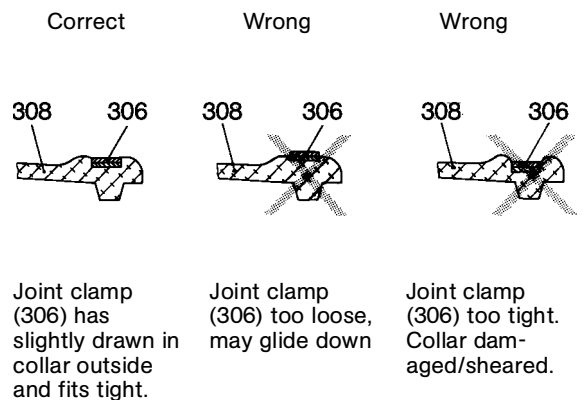

Figure 14: Clamping of joint clamps.
Note: Proper clamping of the joint clamps (306) is shown in Figure 14.